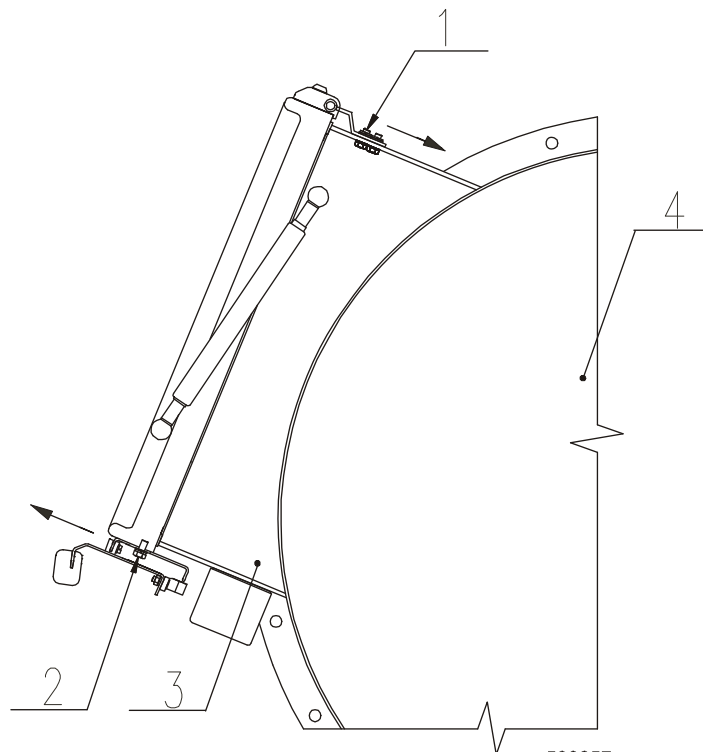

Figure 9.11.
1. Unscrew the securing bolts, Figure 9.11., pos.1, (M6x12, 6 pcs), which secure the door hinges to the collar of outside drum.
1. Unscrew the securing bolts, Figure 9.11., pos.2, (M6x12, 4 pcs), which secure plate, on which there is the plate fixed with the grab handle to door.
2. Move the plate, where the plate with the grab handle is fasten, towards you (in a direction from the washing drum, pos 4). Check again, if the door sealing fits closely to the outside drum. The door sealing must seal the collar (3) of outside drum on its whole circumference.
3. After the door thrust has been adjusted, tighten up the securing bolts (pos.2).